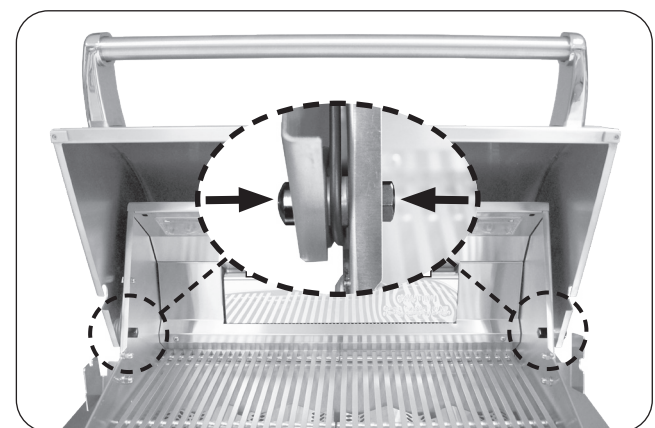

Fig. 2-4 Secure hood with nuts and bolts
8. Align the hood, insert the two bolts, and fully secure with nuts as shown in Fig. 2-4.